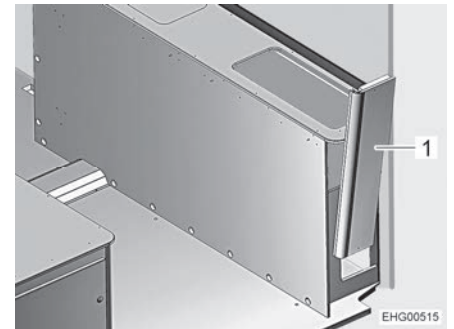

Fig. 108 Bedding box on the right, side wall
- Remove the side wall (Fig. 108,1) upwards with light shaking movements.